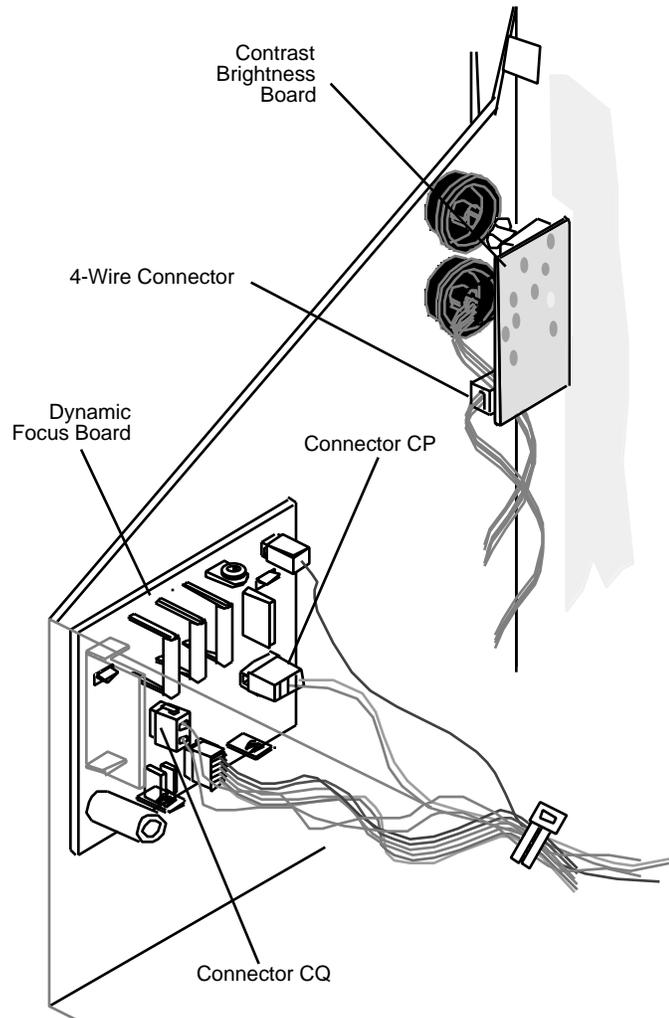

FIGURE 21
5. Disconnect the 4-wire connector from the contrast brightness board (Figure 21). Open the two tie wraps to the left of the neck of the CRT.
6. Disconnect the following connectors from the dynamic focus board (Figure 21) :